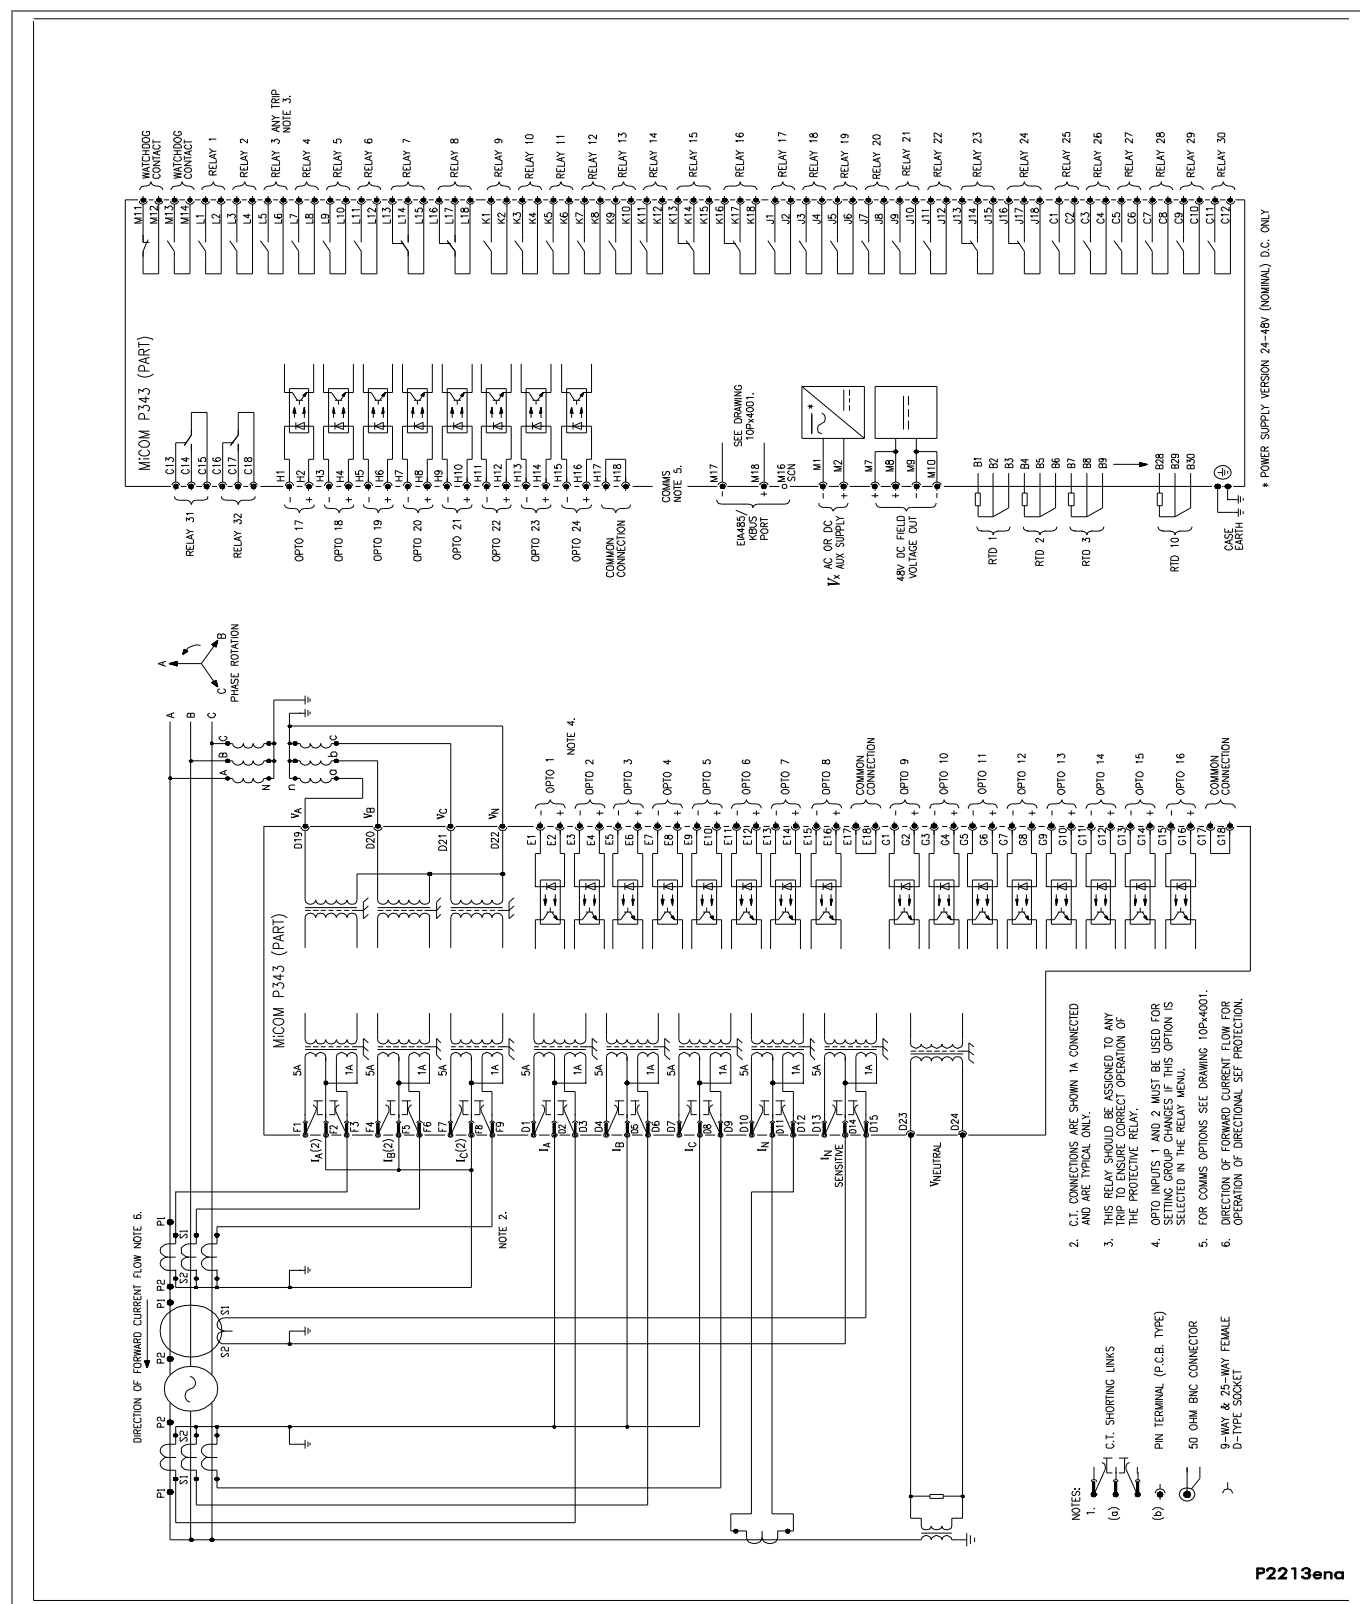

Figure 36 - P343 (80TE) with biased differential (24 I/P & 32 O/P & RTD's)
- Figure 36 - P343 (80TE) with biased differential (24 I/P & 32 O/P & RTD's)